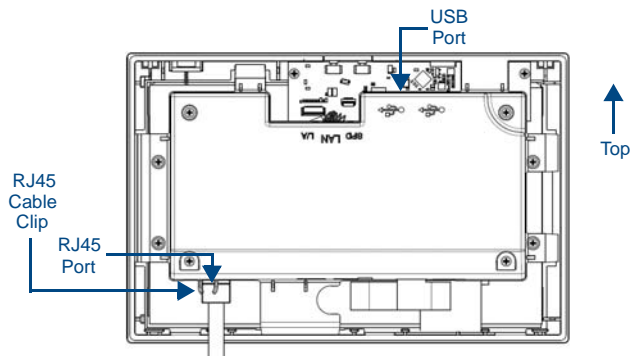
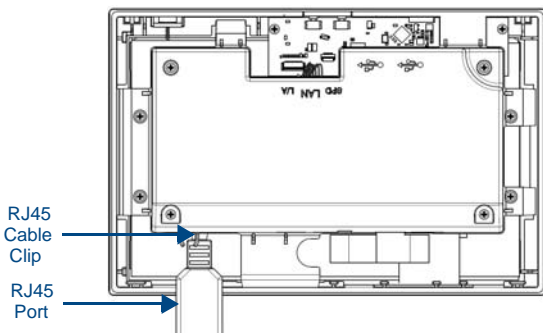

FIG. 2 Rear of the MXD-700 (Landscape)
FIG. 3 Rear of the MXD-700 (with RJ45 connection extended)
FIG. 2 shows the connectors located on the underside of the MXD-700.
Power for the MXD-700 is supplied via Power Over Ethernet (PoE), utilizing an AMX-certified, capacitive touch-compliant PoE injector such as the PS-POE-AT High Power PoE Injector (FG423-81) or other approved AMX PoE power source. The incoming Ethernet cable should be connected to the RJ45 port on the MXD-700 (FIG. 2 and FIG. 3).
5. Insert each connector into its corresponding location along the back of the MXD-700. Gently pull the RJ45 adapter from underneath the electronics cover (FIG. 3), attach the RJ45 cable, and push the connection back under the cover. Lock the RJ45 cable into the clip above the cable connection (FIG. 2) to facilitate the rest of the installation.